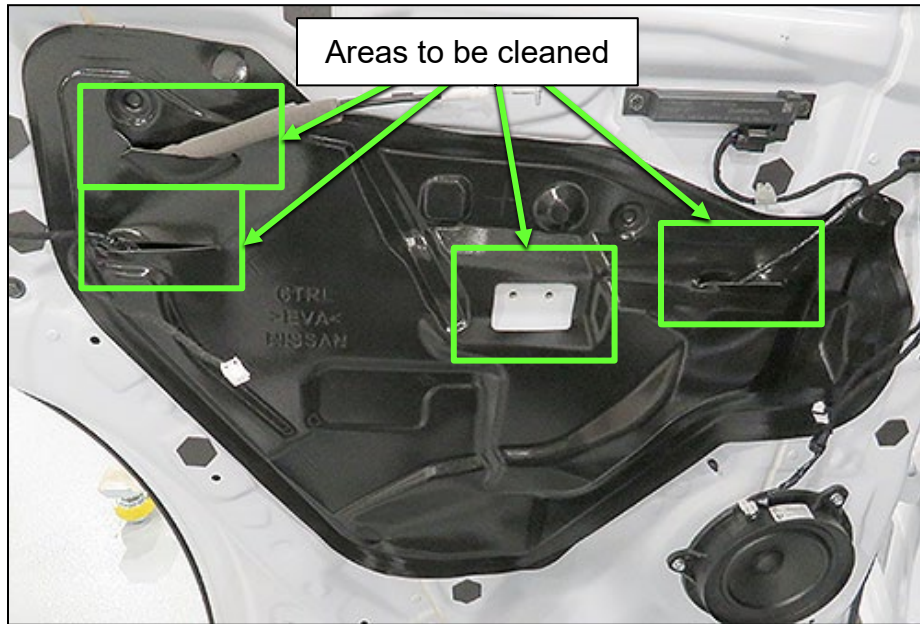

Figure 30
42. Use 80-220 grit sandpaper to scuff the four (4) areas shown in Figure 30.
43. Clean the door seal surface in the four (4) areas shown in Figure 30 with alcohol.